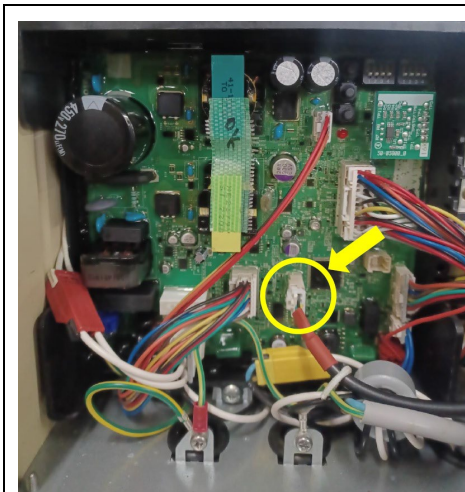

Figure 3
3. Unscrew the four screws retaining the front cover of the CFWH units and carefully disconnect the connector on the PCB as shown in **Figure 3**. Undo the P-clip securing the Smartec cable and remove the cable out of the units through the grommet located on the bottom panel of the units. Affix the front cover back onto the CFWH units. Identify location on the frame from which each Smartec cable was taken.